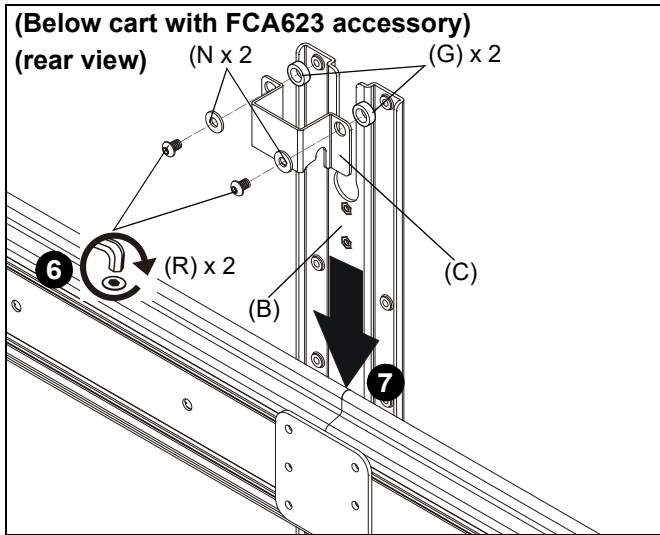

Figure 9
- Use two 1/4-20 x 7/16" button head cap screws (R), two large washers (N) and two 1/2" spacers (G) to secure shelf bracket (C) to main bracket (B). (See Figure 9)
- Slide main bracket (B) onto front of cart/ceiling mount head assembly until shelf bracket (C) rests on top of head assembly. (See Figure 9)